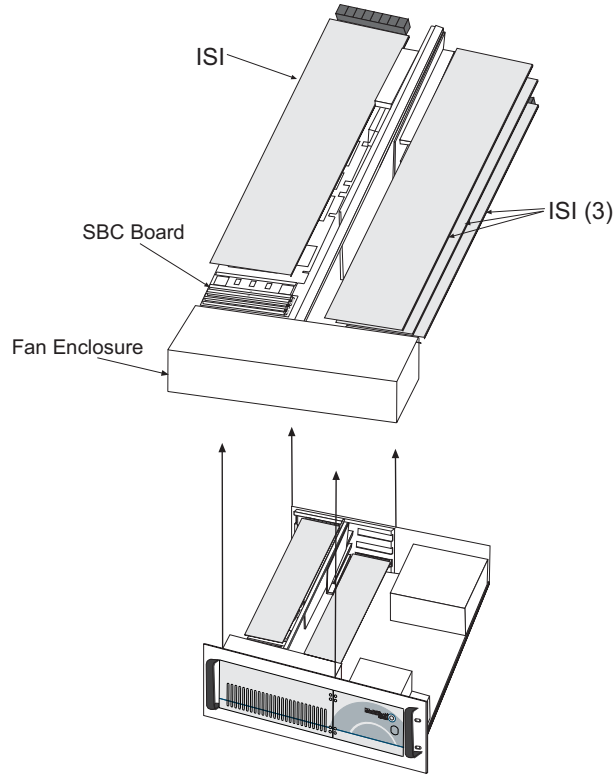

Figure 4-5. Card Cage Removal
- 4 Finish pulling the card cage (including fan enclosure) straight up and out of the chassis. See Figure 4-5. Set it next to the chassis.